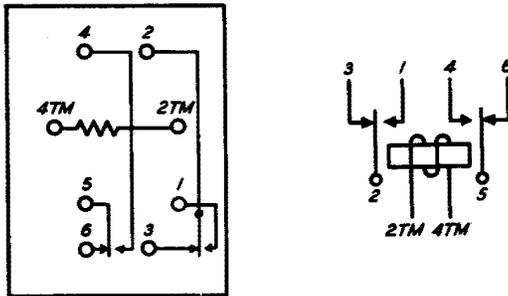

Fig. 84 - Winding and Spring Terminal Arrangement (terminal side) — KS-5350 and KS-5451 Relays Having Four Horizontal Rows of Terminals
2.88 The contacts in any vertical row of terminals number from the top down beginning with 1 in the right row of terminals. Where the top terminal in this row has a letter designation in accordance with 2.89, 2.90, and 2.91, the number 1 is applied to the terminal directly below it. (See Fig. 84.)
2.91 Where the relay has either four or six horizontal rows of terminals the upper middle row of terminals is designated by the letters TM preceded by the same number as the nearest terminal above. (See Fig. 84 and 88.)